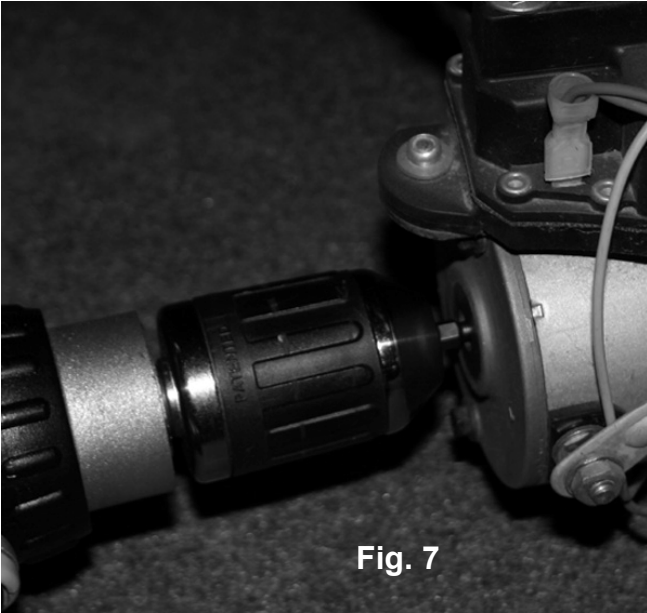

Fig. 7
3. Insert hex bit into coupler found under protective label. (See Fig. 7)